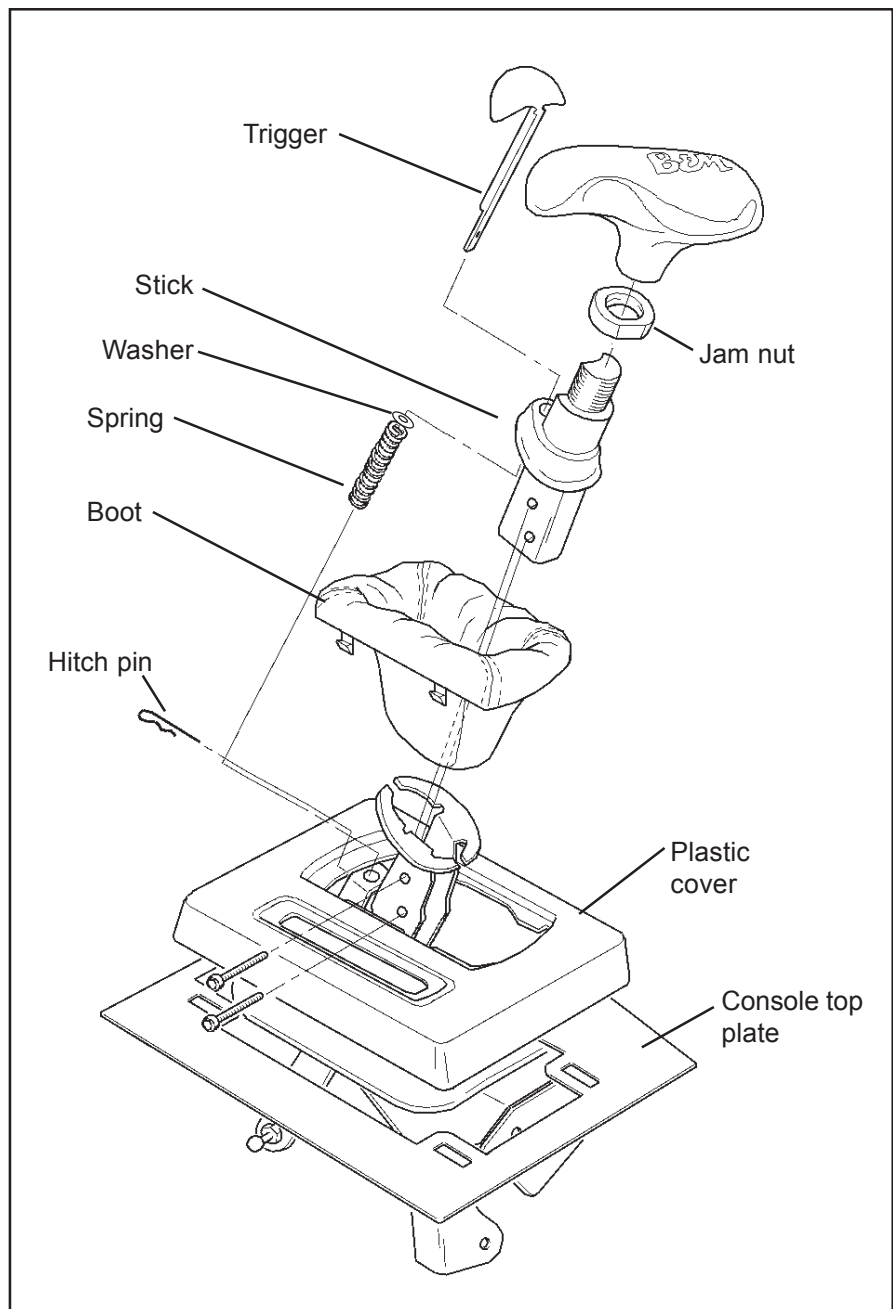

Figure 3
STEP 9. Before replacing the console, the stick must be removed from the shifter. Shift the shifter to the Neutral position. Remove the stick and trigger from the shifter. Remove the hitch pin that secures the trigger to the mechanism. Remove the trigger, the trigger spring and the washer on top of the spring. Remove the two screws that secure the stick to the shifter and remove the stick. See **figure 3**.
Install the leather boot. Turn the boot inside out and slide it over the bottom of the stick. Put the stick back in place on top of the mechanism, re-install the two screws and tighten. Slide the trigger back through the stick, the washer, the spring and the steel trigger plate on the shifter. Re-install the hitch pin. Pliers are the best tool for this installation. See **figure 3**. Turn the boot right side out and snap the boot into the top plate. Install the T-Handle and jam nut. The jam nut is a round nut with two flats on it. The chamfered side goes down. Tighten the jam nut when the handle is properly oriented. Use a little loctite on the threads to keep the handle from turning. Check the operation of the shifter, indicator and interlock.